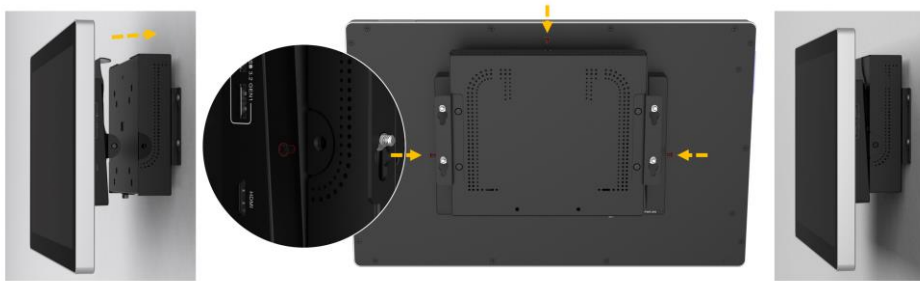

Figure 3-7: Wall Mount Brackets
Step 7: Secure the panel PC with the VEAS mounting bracket installed to the AUPS2-B20 Series wall mount using three screws. **(Figure 3-7).**